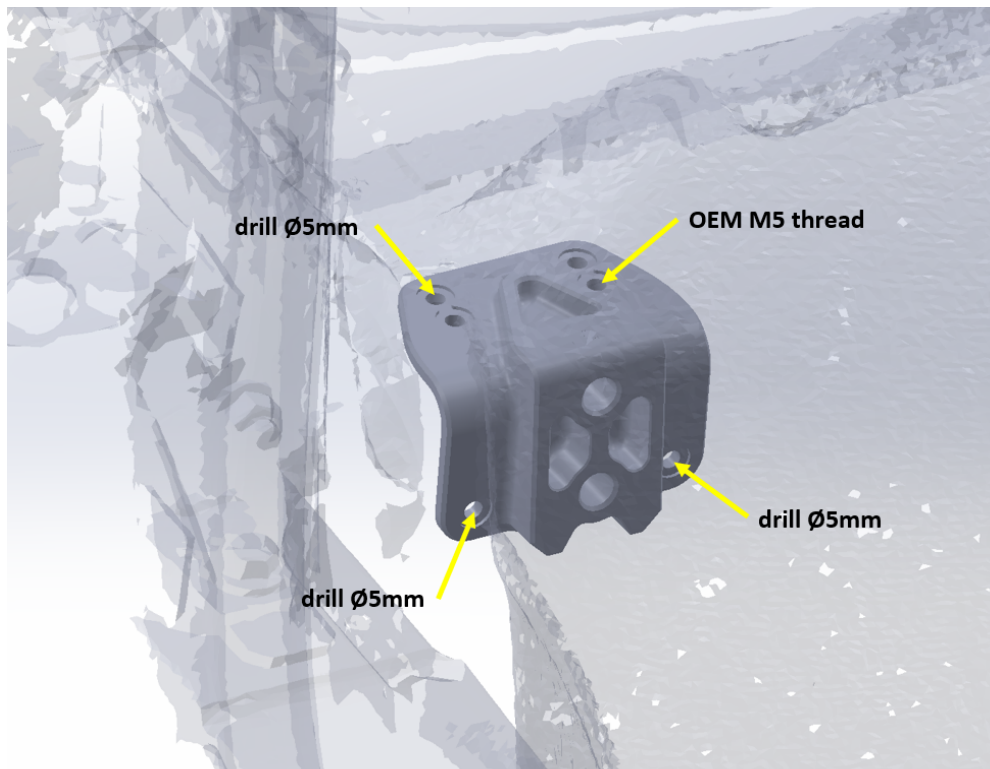

Fig 8: Drill the Ø5mm holes for the right rollbar brackets (3).
7. Put the 2x rollbar brackets (3) in position and fix them loosely using the OEM M5 nuts. Now drill the required Ø5mm holes as shown in *Fig 8* and *Fig 9*.